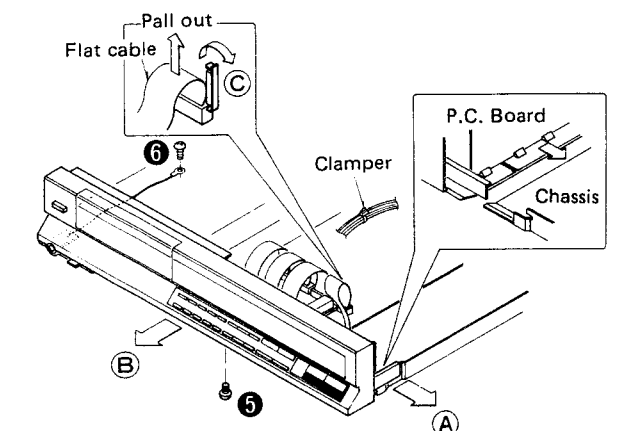

Fig. 2
2. Remove the front panel setscrew, and ground terminal setscrew. [Fig. 2 : ⑤, ⑥]
3. Slightly open the front panel on both sides (arrow A in Fig. 2), then remove the front panel from the projection of chassis.
4. Remove the front panel in the direction of the arrow B, with care not to scratch the disc holder. [Fig. 2]
5. Open the lid of 4 connectors (CN401 ~ CN404) of main P.C.B. (arrow C in Fig. 2) and then pull out the flat cable.